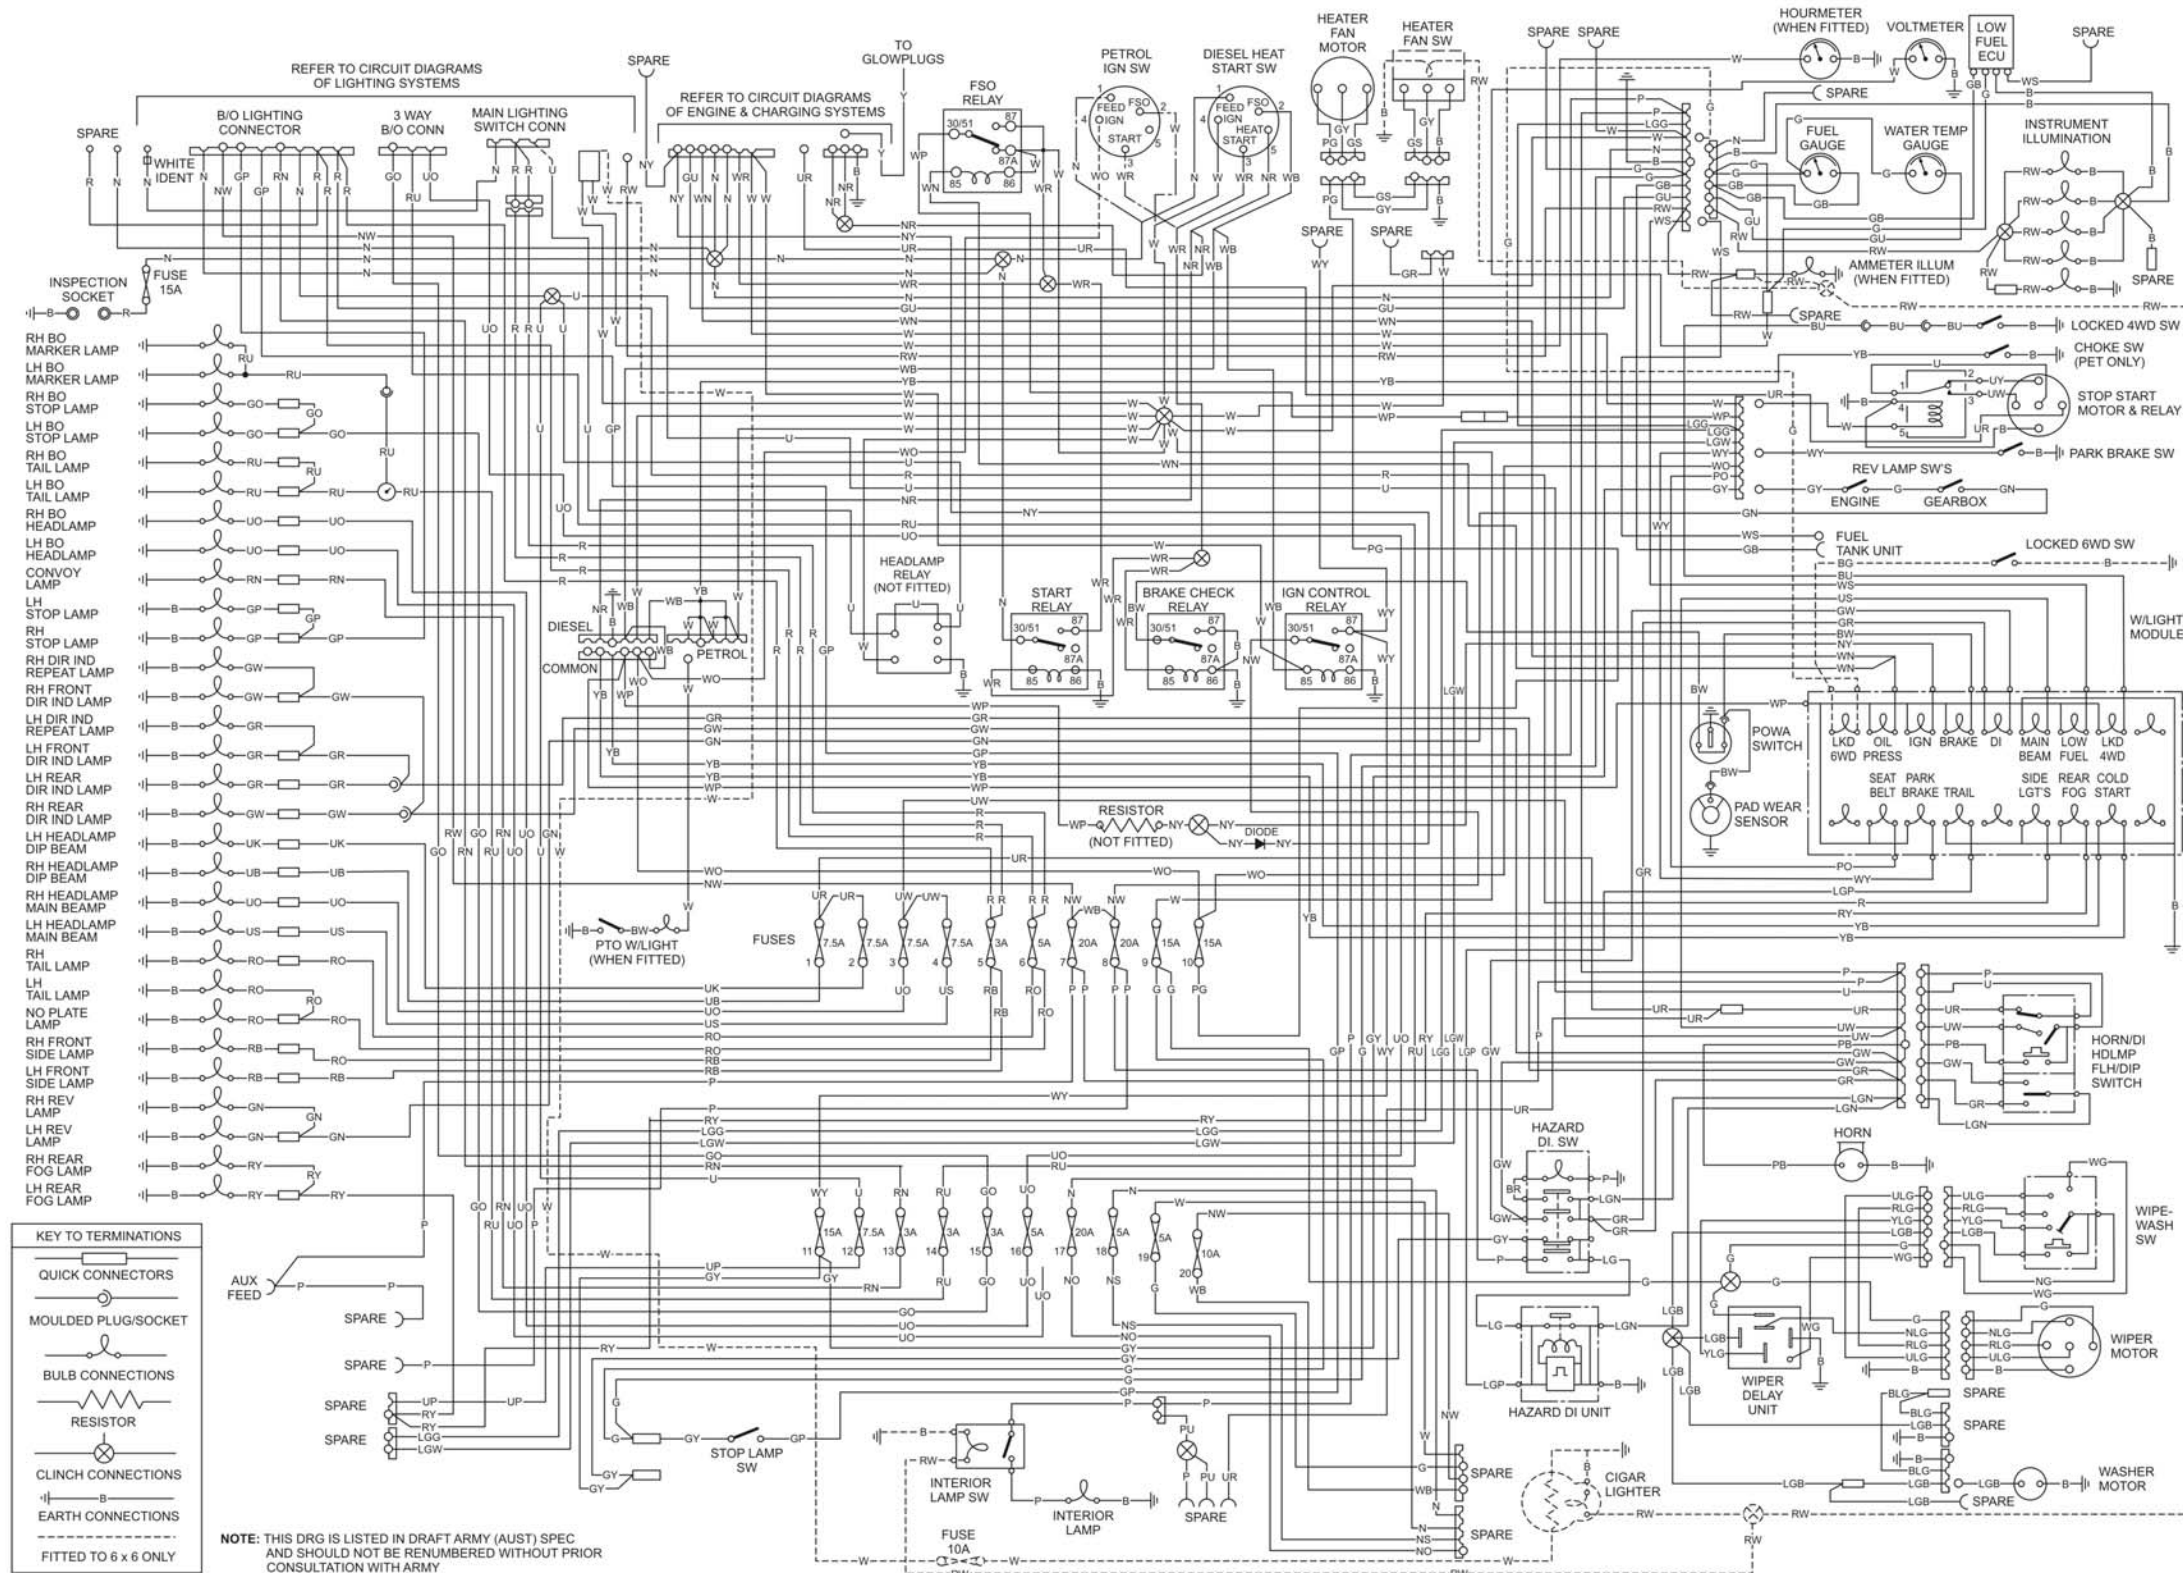

Figure 32 Spare Wheel Carrier
**69. Spare Wheel Carrier.** The spare wheel carrier assembly (Figure 32) is mounted on the rear left of the vehicle. The carrier has the capacity of two wheels and secures them by a strap assembly and with a lockable cable. The strap assembly has protective covers to prevent chaffing of the straps. The carrier can be configured with either one or two spare wheels. The registration plate and light are mounted on the rear of the carrier.